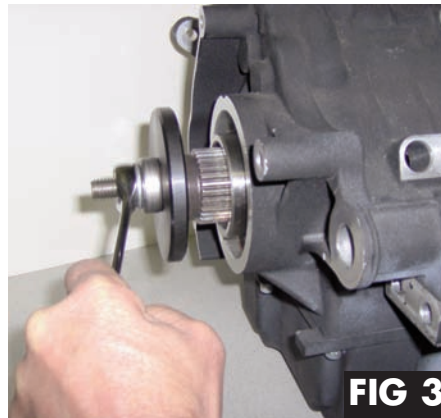

FIG 3
4. Lube threads on end of screw No. **2138** hanging out of main drive gear. Install No.**35316-80-7** maindrive gear washer, bearing No. **2010**, No. **2038** washer and then No. **2136** nut on screw end. **See Fig 3.**